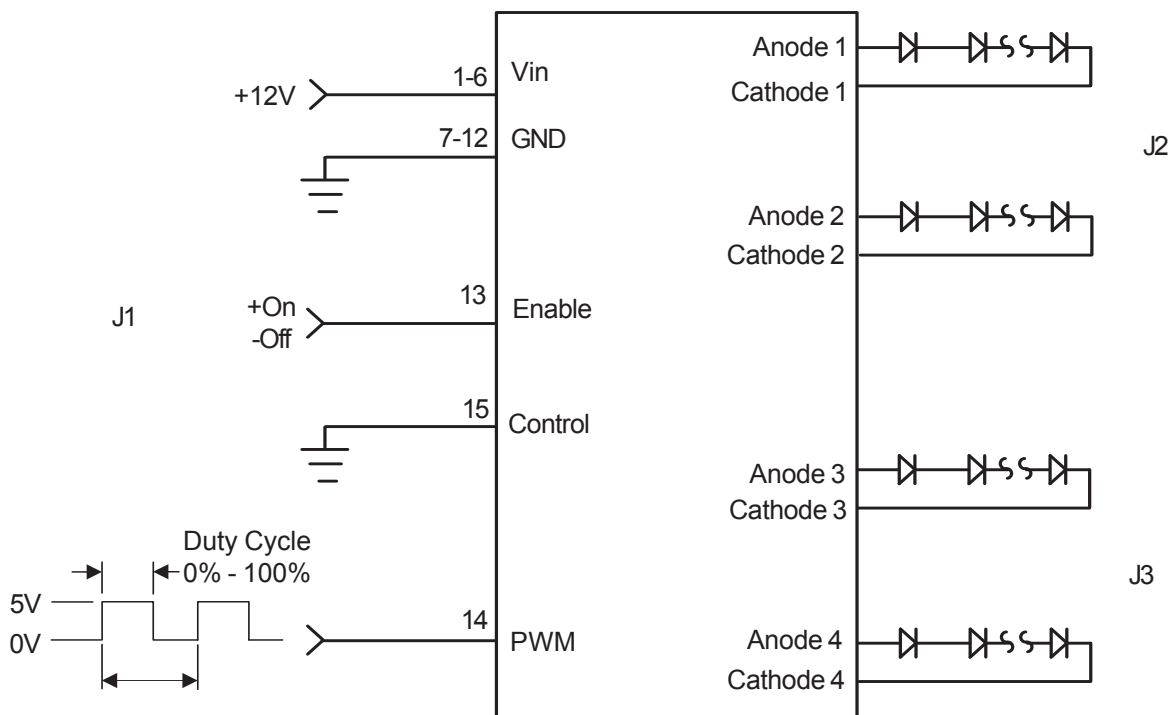

Figure 2
- OPERATION: External PWM configuration as shown in Figure 2 allows the user to control display brightness with an externally generated PWM signal. The user is responsible to provide the PWM signal. A dimming ratio up to 10,000:1 is possible with this configuration.